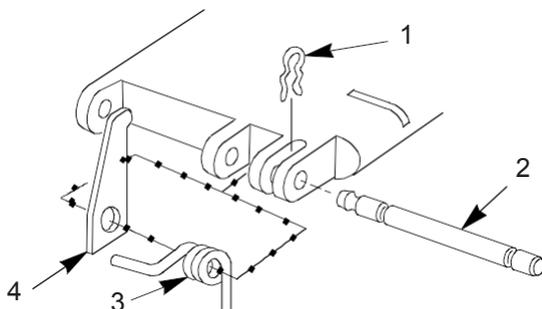

Figure 5. Retaining Clip, Headless Pin, Torsion Spring, Catch Cover.
5. Remove retaining clip (Figure 5, Item 1). Remove headless pin (Figure 5, Item 2) and separate torsion spring (Figure 5, Item 3) and catch cover (Figure 5, Item 4).
6. Visually inspect headless pin (Figure 5, Item 2) for burrs and bends, and replace if damaged.
7. Visually inspect torsion spring (Figure 5, Item 3) for broken coils and bent or broken legs. Replace if damaged.